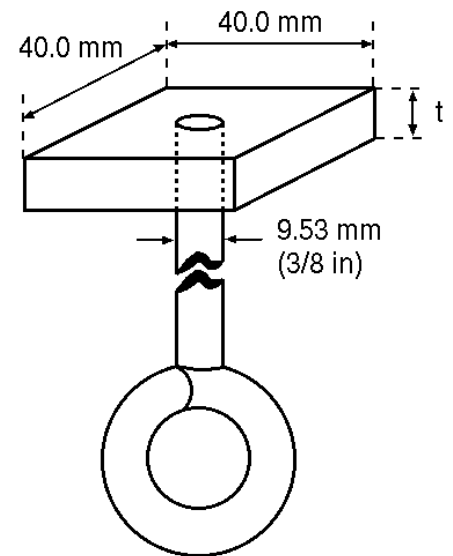
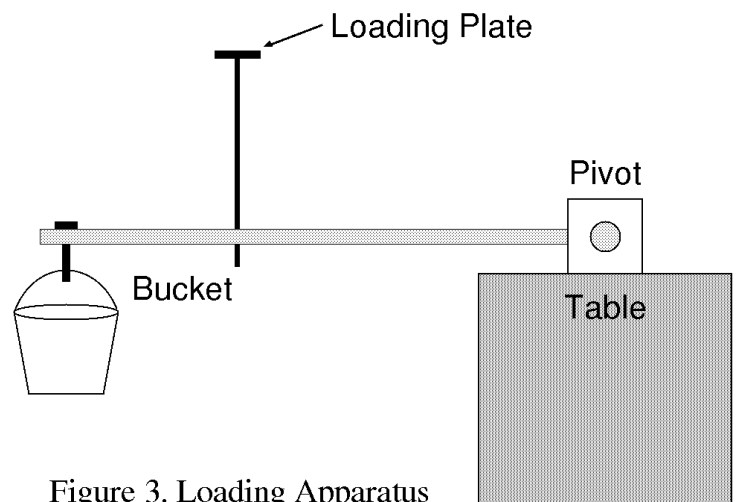

Figure 2. Loading Plate Detail
Figure 3. Loading Apparatus
- The load will be applied by means of a **40. mm** square plate (see Figure 2) with a thickness (**t**) of at least **6. mm** but less than **13. mm**. A 9.53 mm (3/8 inch) diameter linkage is attached from below to the center of the plate. The plate will be horizontal and will be mounted with its edges parallel to the longitudinal axis of the bridge. Force will be applied to the loading plate by means of an apparatus shown schematically in Figure 3. The minimum initial load will be **2. kg**.